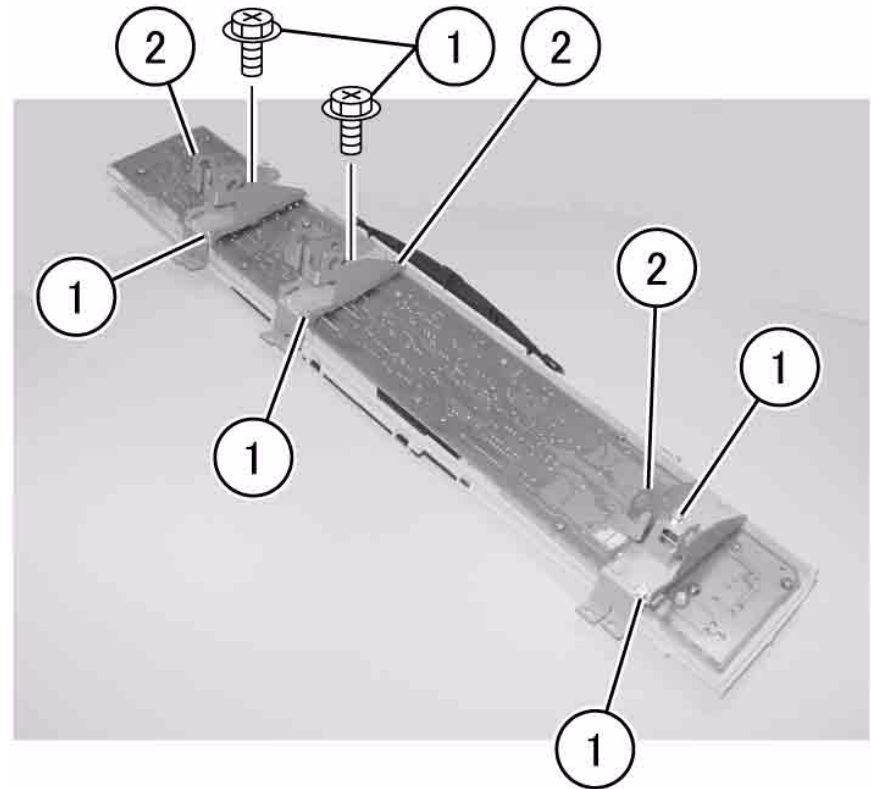

Figure 1 Remove Support Brackets
3. Remove the Support Brackets (Figure 1).